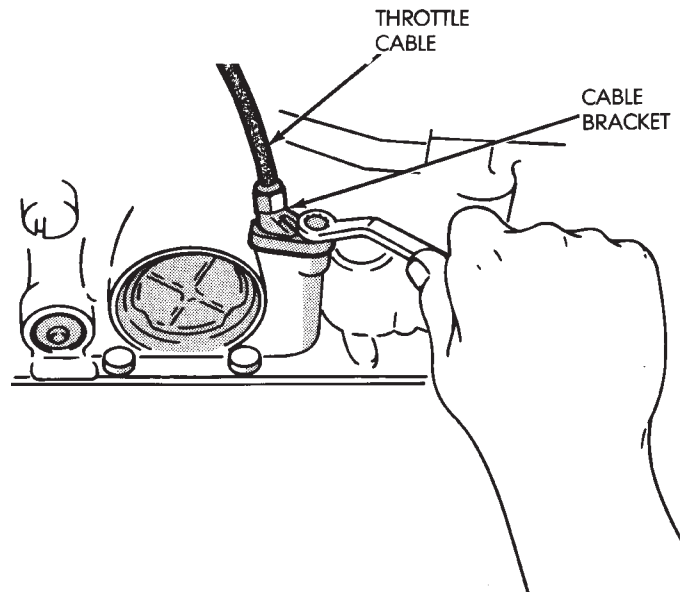

Fig. 43 Removing/Installing Transmission Throttle Cable And Bracket
- (5) Remove cable bracket bolt and remove cable and bracket from case (Fig. 43).
- (4) Install cable bracket on case and tighten attaching bolt to 10 N•m (7 ft-lbs) torque (Fig. 43).
- (5) Remove old sealer material from oil pan and transmission case. Clean oil pan with solvent and dry it with compressed air.
- (6) Apply bead of Mopar or Loctite 599 sealer to oil pan sealing surface. Sealer bead should be at least 3